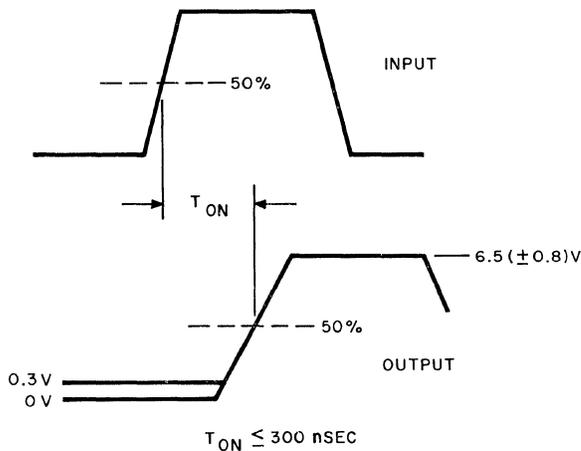

**Fig. 8 — Complementary Flip-Flop Test**
- (1) Connect the EXT SYNC lead to J7 on the test set.
- (2) Connect the CHAN A probe to J7 on the test set.
- (3) Connect the CHAN B probe to J4 on the test set.
- (4) The input test pulse on J7 shall be as specified in Fig. 8.
- (5) Rotate the INPUT selector through positions 1 to 6.